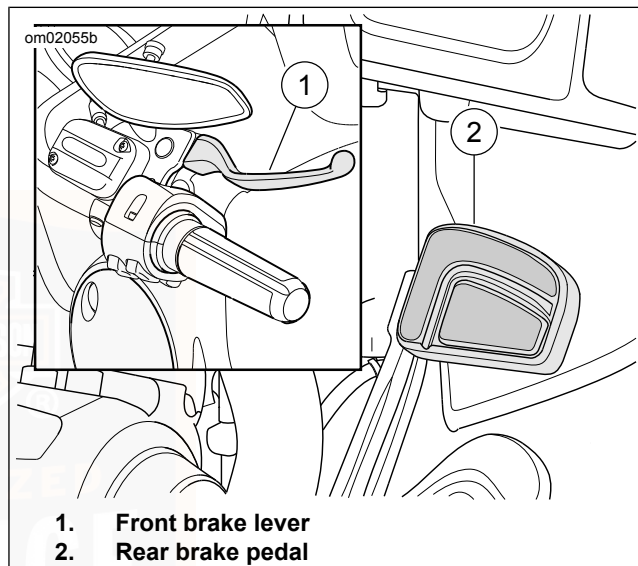

Figure 26. Brake Controls
See Figure 26. The front brake hand lever (1) controls the front wheel brake. The lever is on the right handlebar. Operate the hand lever with the fingers of the right hand.
See Figure 26. The rear brake pedal (2) controls the rear wheel brake. The pedal is on the right side. Operate the rear brake pedal with the right foot.